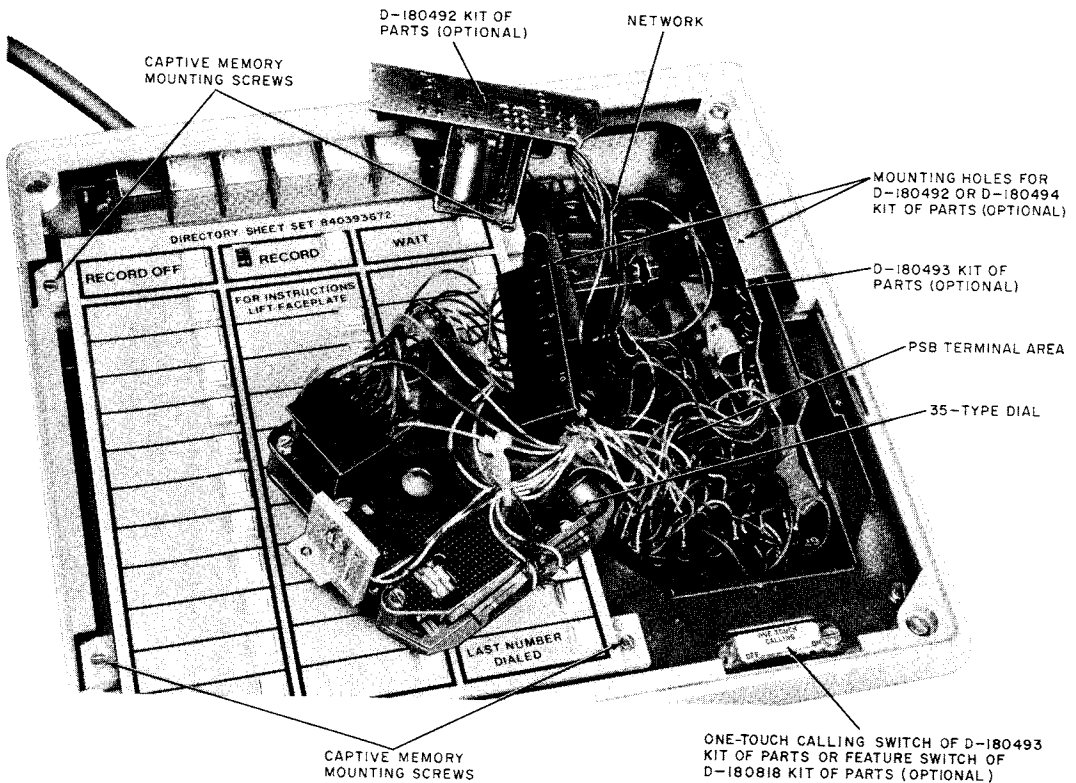

Fig. 4—2872A2M Telephone Set—Dial Removed To Show Terminal Area
(1) Proceed as described in paragraph 3.16.
(2) Make connections per the appropriate Tables, B through E.
(3) Mount the kit assembly to the chassis with the screws provided (Fig. 4). Beveled corner of printed wiring board (PWB) should be located at lower right corner.
(1) Remove the housings (paragraph 3.21), and access PSB terminal board (paragraph 3.17).
(2) Insert the board assembly from the back of the set and locate as shown in Fig. 4, such that the two tabs on the board assembly fit into the slots in the bottom of the chassis.
(3) Lock the board into position by inserting the self-threading screw through the right side of the chassis.
(4) Mount the one-touch calling switch below the dial with the two screws provided.
- (1) Proceed as described in paragraph 3.17.
- (2) Make connections per Table G.
- (3) Mount the kit assembly to the chassis with the screws provided (Fig. 4).
- (1) Remove faceplate (paragraph 3.19).
- (2) Loosen the captive screw at the bottom of the cover around the dial and remove the cover.
- (3) Disengage the four captive memory mounting screws (Fig. 4).
- (6) Mount switch below dial using the two screws provided (Fig. 4).
- (b) Under the faceplate, inside the set (Fig. 4 and 5):
- Power supply (PSB) terminal area (Fig. 4)
- Network (Fig. 4)
- Options (Fig. 4):